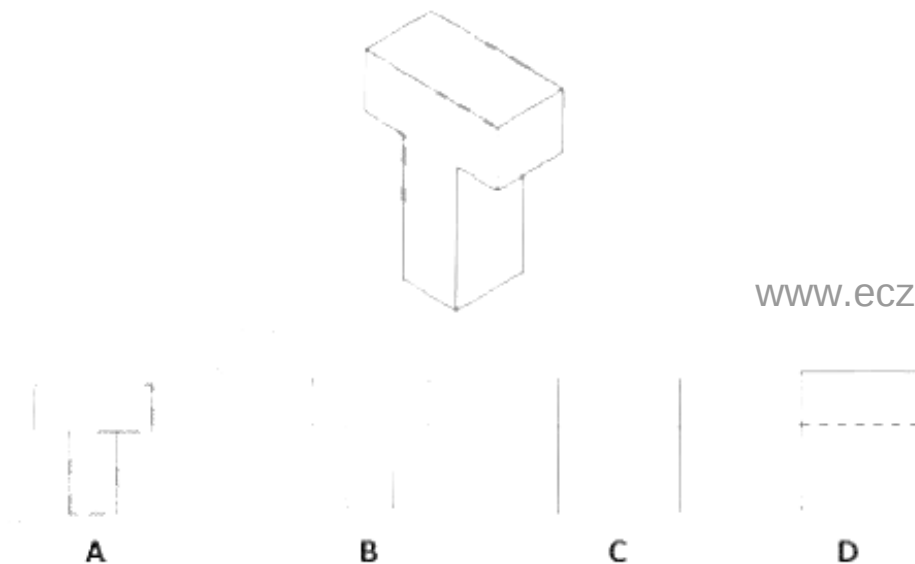

Figure 1
- 2** **Figure 1** below shows a block used as a teaching aid by our Design and Technology teacher. Identify the correct end elevation.